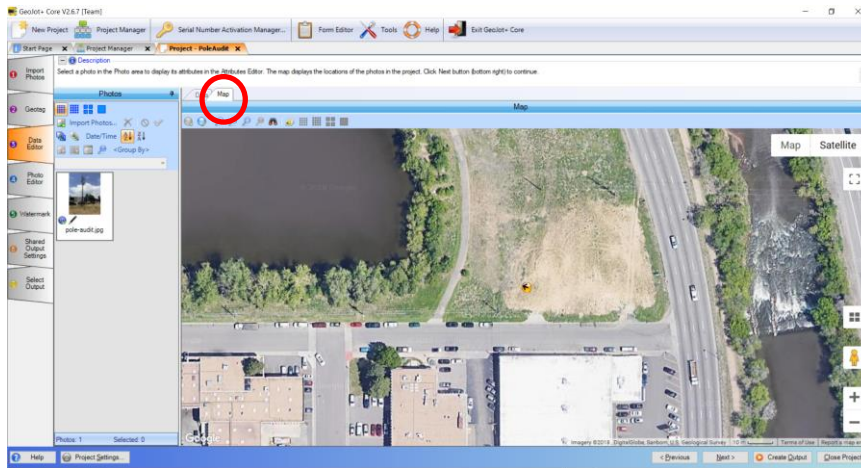

Figure 22
22. From the Data Editor tab, choose the **Map** view and confirm the location for the image is correct (Figure 22)